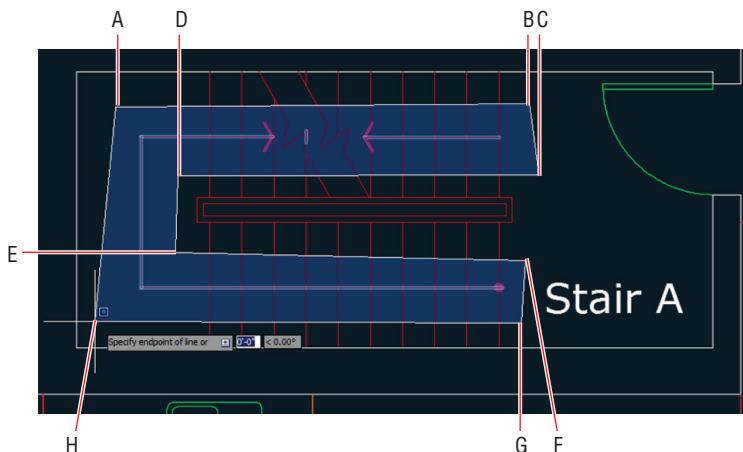

FIGURE 4.6 Drawing a polygonal implied window to create a selection set
2. Click points B through H, as shown in Figure 4.6. The transparent blue polygon you are drawing functions the same as an implied rectangular window; the difference is the polygonal window offers more flexibility because you can shape it. Only those objects completely contained within the borders of the blue window will be selected.